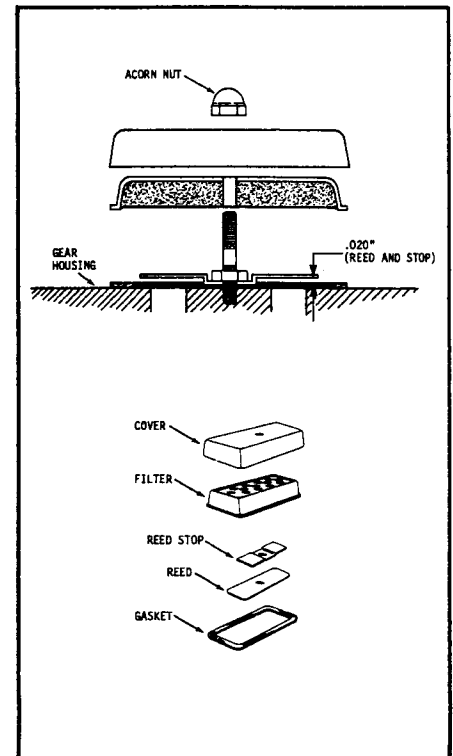

Fig. 264 Crankcase Breather
12. Crankcase Breather: (Figure 264)